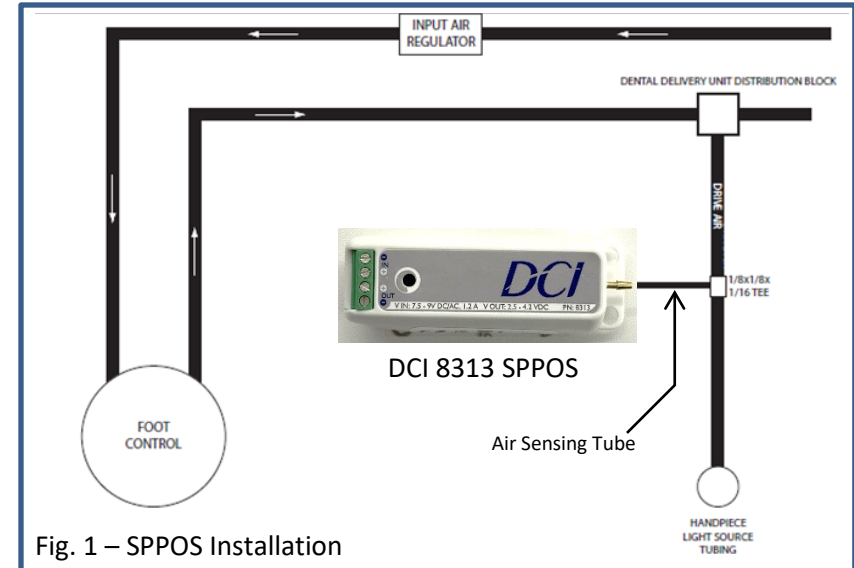

Fig. 1 – SPPOS Installation
- Handpiece light source tubings are available in various styles and colors to be compatible with dental unit colors and desired handpiece connections. If the unit doesn't already have a handpiece light source tubing, replace the entire existing handpiece tubing with one that is compatible with the particular handpiece being used. Install a 1/8" x 1/8" x 1/16" plastic tee and air sensing tube assembly into the drive-air line of the appropriate handpiece position not more than 12 inches from the desired location of the SPPOS. See Fig. 1.